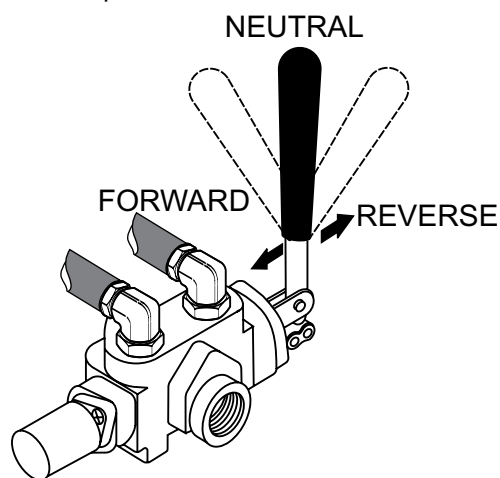

Figure 9. Travel Control Lever
- Place the travel control lever (Figure 9) in the **NEUTRAL** position.